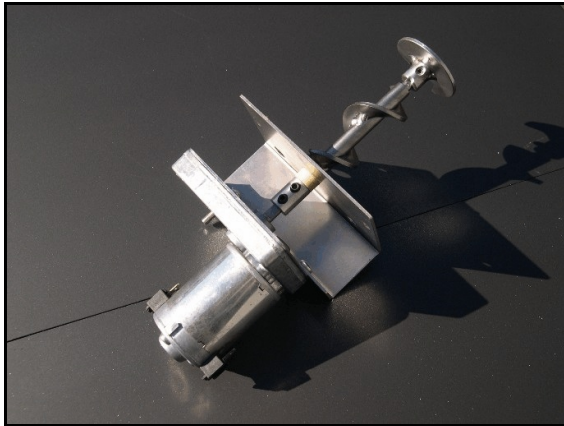

Figure 1
The EasyFire feed system consists of four main components, feed motor and mounting plate, feed auger shaft, feed disk, and feed disk bushing (**Figure 1**). These components are designed to provide thousands of hours of service and rarely require service or replacement. Operation of feed system is controlled by the main control board based on the stoves temperature and heat setting. Unlike other pellet stoves, the system operates by increasing and decreasing the speed of the auger and disk. Pellets are pushed forward toward the disk and as the disk rotates clockwise (from front of stove) allows the pellets to be feed into the shoot. Three feed disk sizes are available with the standard = 1, medium = 2, and large = 3. #3 feed disks are for large or long pellets only. If overfeeding or under-feeding is a problem and adjusting the feed trim will not compensate, changing the feed disk is advised.
1. **Circuit Board:** The circuit board is located on the lower right hand side of the heater or insert (facing from the front **fig.1 - pg. 21**).